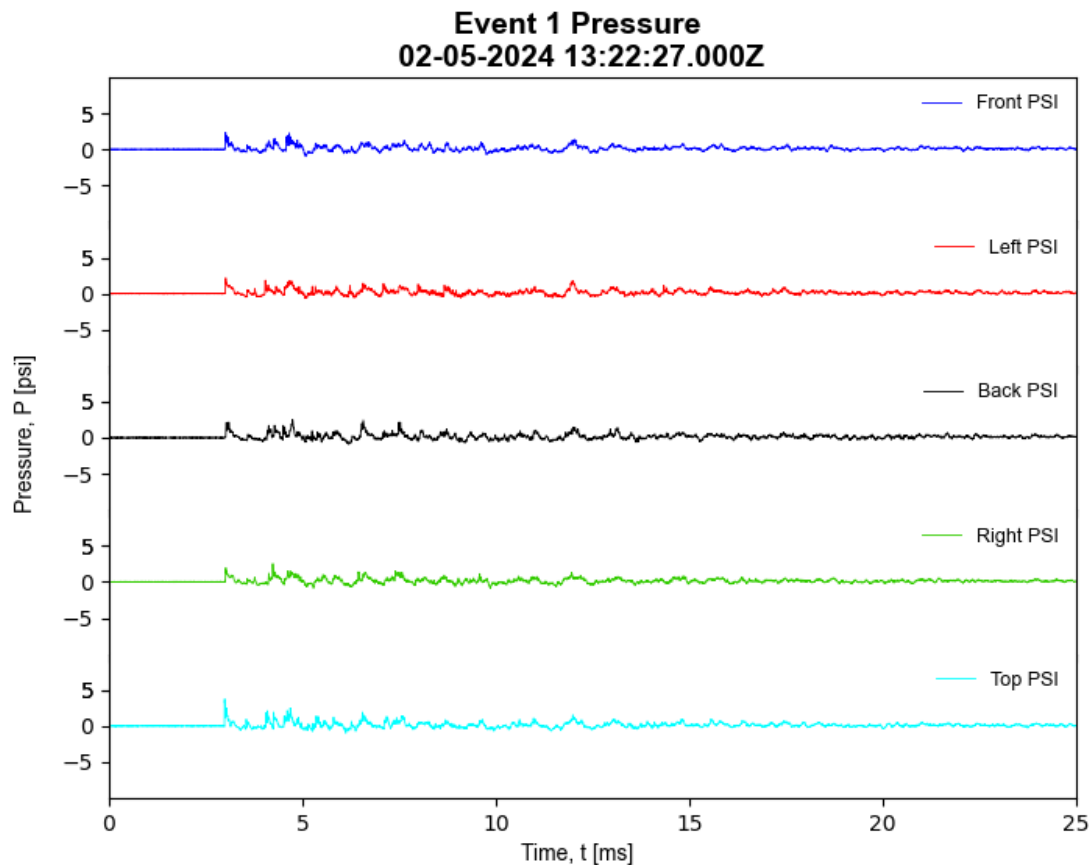

Figure 24. Selecting the offset option will create offset pressure history graphs.
- d) The “Graph” tab is used for processing options. In the Tab, the default checked selections are Graph, ACC, and Excel Table. This means, the processed data will be graphed, acceleration histories will be graphed, and an excel table summarizing the events will be created. One can un-select any item to disable its function. The default unchecked “Offset” can be checked offset each of the OmniBlast™ pressure signals in the graph, as opposed to overlaid. (**Figure 24**).